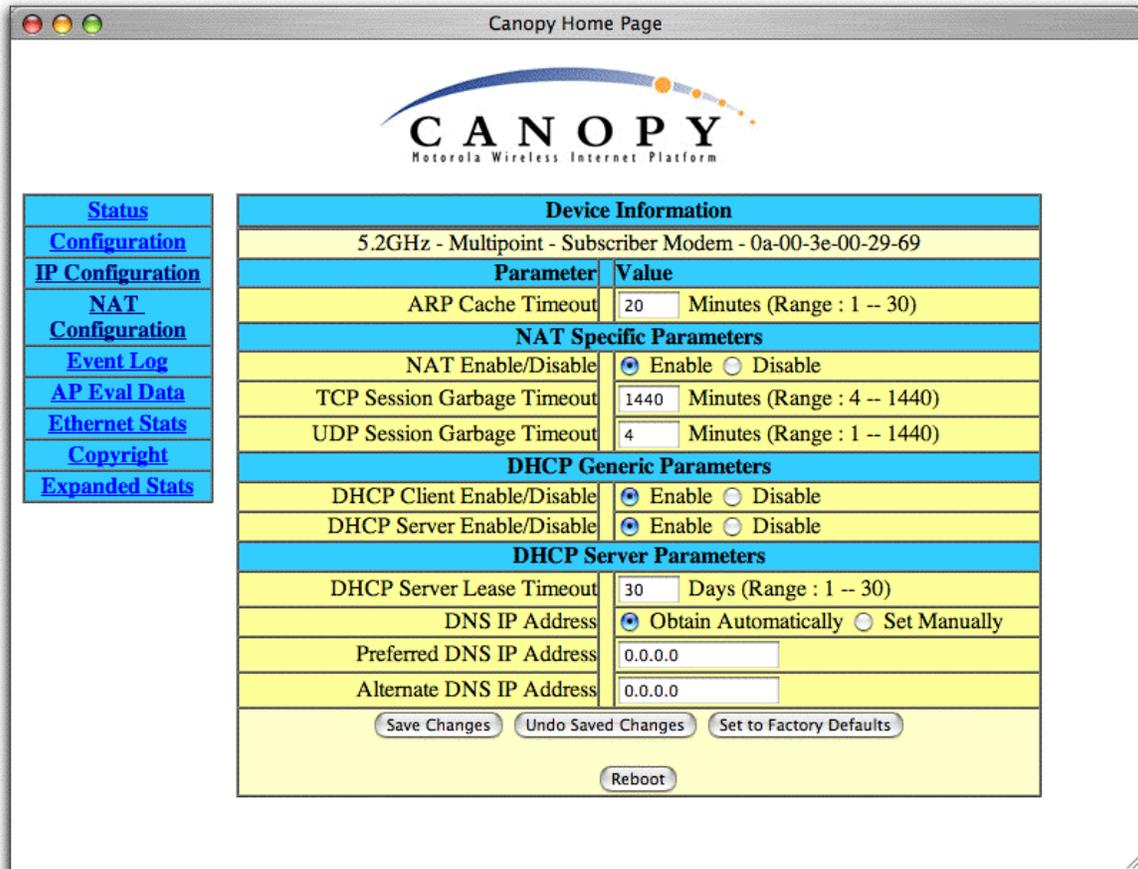

Figure 45: NAT Configuration screen, NAT with DHCP client and DHCP server
- Figure 45 on Page 101 for the NAT with DHCP Client and DHCP Server implementation.